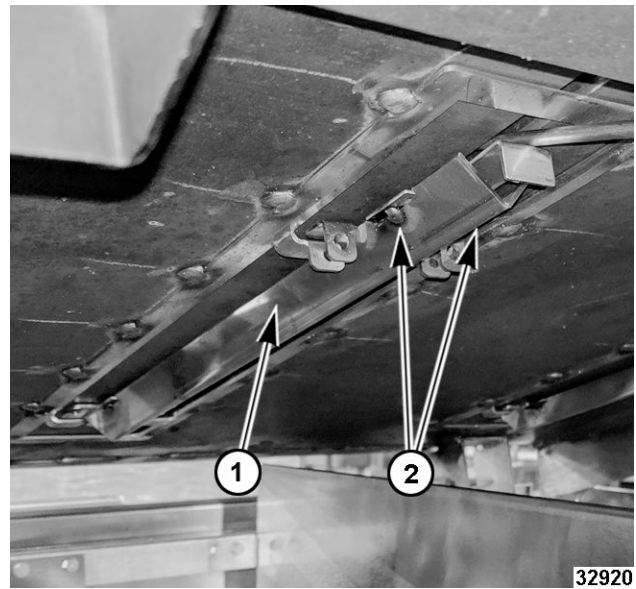

Fig. 102
- Verify bulb is seated properly and shield (1, Fig. 102) is back in place, fasten tight with two screws (2, Fig. 102).